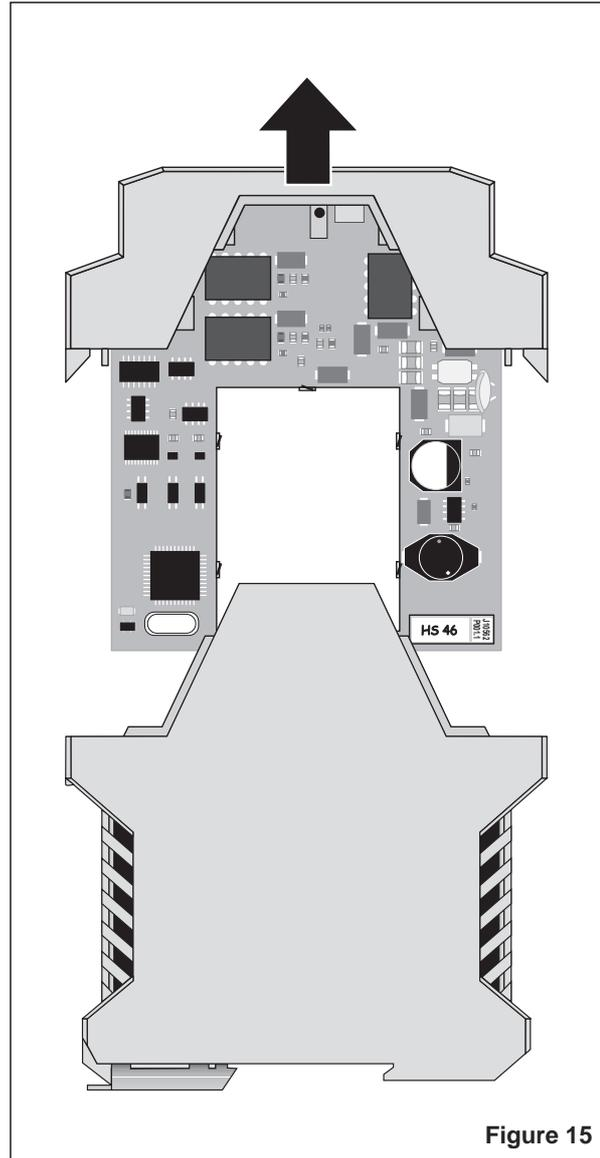

Figure 15
4. Open the housing of the receiver in the existing system by pressing both the housing latches on the sides. Remove the electronics module from the housing (see Figure 15).